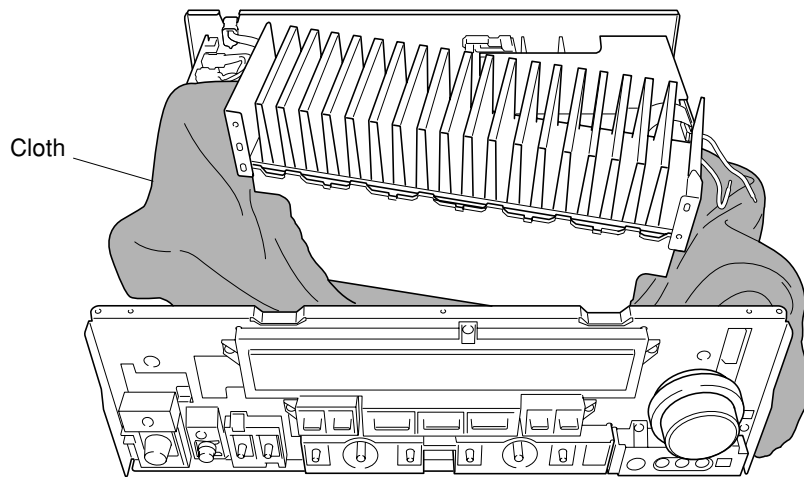

**Fig. 5**
**7. Removal of MAIN (1), (5) and POWER (1), (2) P.C.B.s**
- a. Remove CB354. (Fig. 5)
- b. Remove 2 screws (11), 1 screws (12) and 2 screws (13). (Fig. 5)
- c. Remove MAIN (1), (5) and POWER (1), (2) P.C.B.s. (Fig. 5)